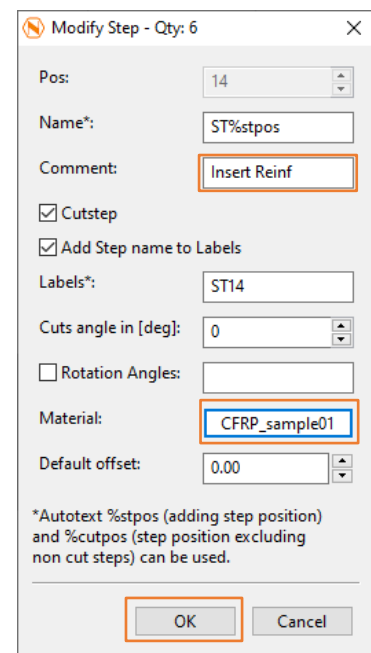

Figure 238
24. Enter “Insert Reinf” to emphasize the purpose of this steps and select our CFRP_sample01 material (Figure 238).